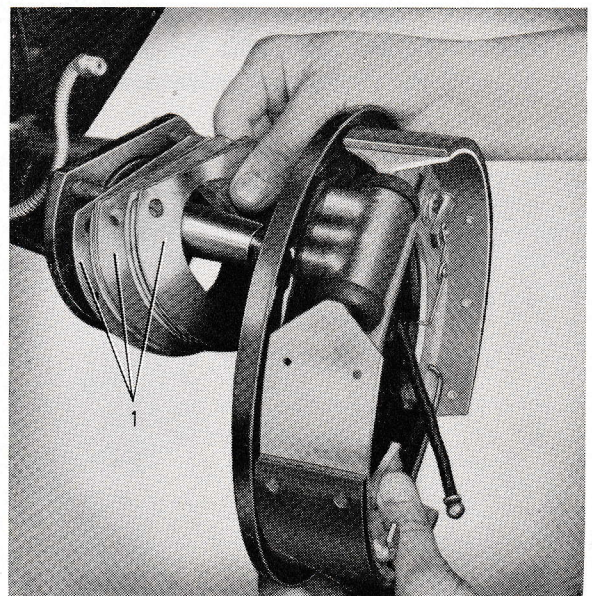

Fig. 21. Fitting the brake backing plate.
4. Fit the brake backing plates as shown in Fig. 21, the shims (47) which were removed earlier, and the felt washers (8) on both sides, and tighten the bolts (46) finally. Examine the rubber sleeve where the handbrake cable passes through the brake backing plate. Replace the sleeve if necessary. Strike the ends of the axle shafts with a mallet so that the bearing outer rings come into their correct position.